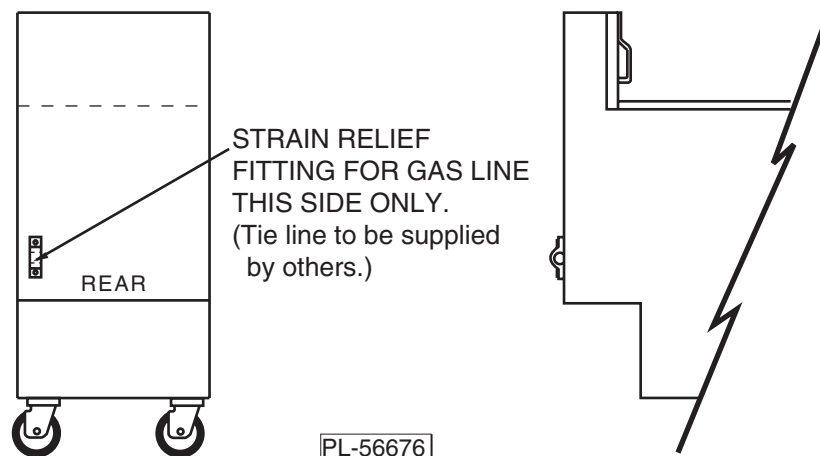

Fig. 2
- For an appliance equipped with casters, instructions that (1) the installation shall be made with a connector that complies with the Standard for *Connectors for Movable Gas Appliances*, ANSI Z21.69 or *Connectors for Moveable Gas Appliances*, CAN/CGA-6.16, and a quick-disconnect device that complies with the Standard for *Quick-Disconnect Devices for Use With Gas Fuel*, ANSI Z21.41, or *Quick Disconnect Devices for Use with Gas Fuel*, CANI-6.9, (2) adequate means must be provided to limit the movement of the appliance. In Australia, use only the caster supplied by the manufacturer for the fryer device. The fryer must be installed using a hose assembly restraining device to limit the movement of the appliance which is in accordance with AS1869.
- The fryer must be installed with restraining means to guard against transmission of strain to the connector, as specified in the manufacturer's instructions (Fig. 2).